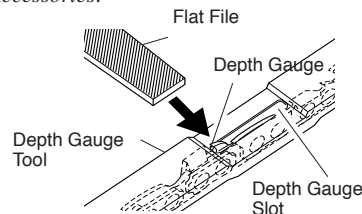

Figure 24 - Depth Gauge Tool On Chain
1. Place depth gauge tool (.025") firmly across top of two cutters. Make sure depth gauge enters slot in depth gauge tool (see Figure 24).